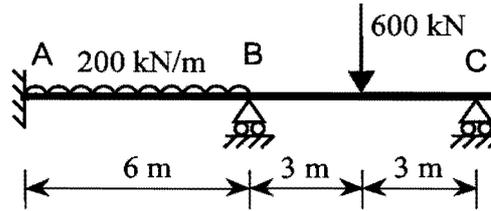

Figure 9
- * 10. The two-span beam, ABC , shown in Figure 9 is to be designed so that it will not collapse under the indicated loads. It will be made from Grade 43 steel ($\sigma_y = 245$ N/mm²).
- (a) If the structure is to be made from a single continuous beam, choose a suitable Universal Beam (UB) from the Structures Data Book.